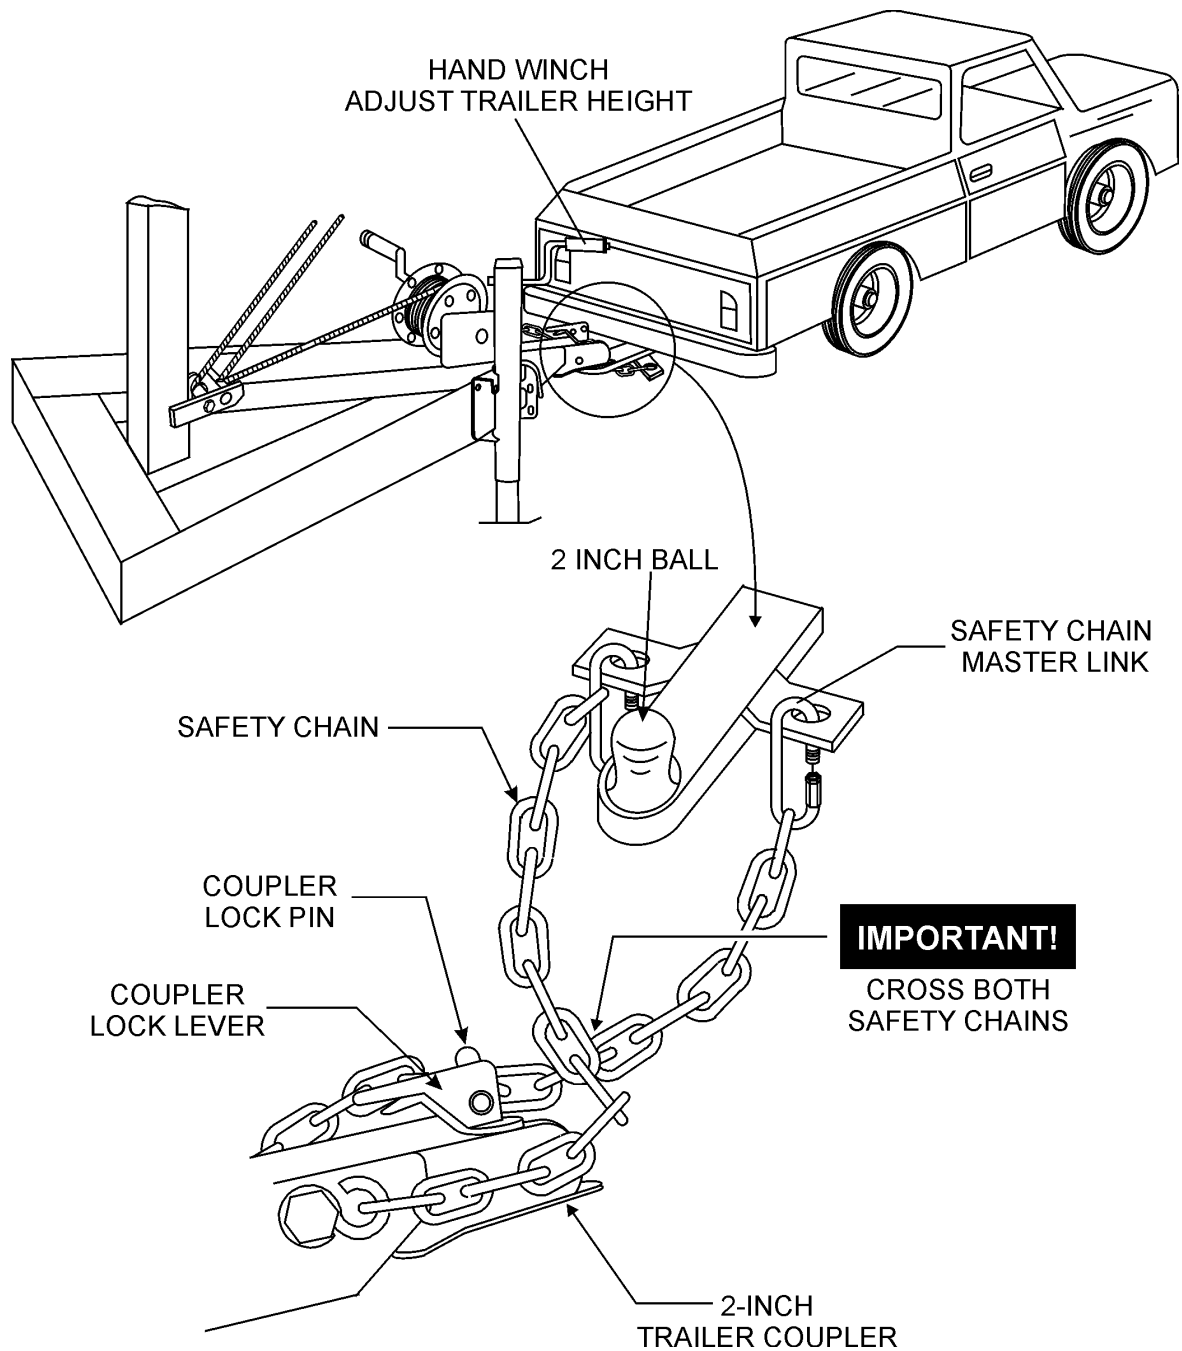

Figure 7. Safety Chains/Trailer Coupler Hook-up
4. Attach safety chains as shown in Figure 7. Remember to **cross** the safety chains.